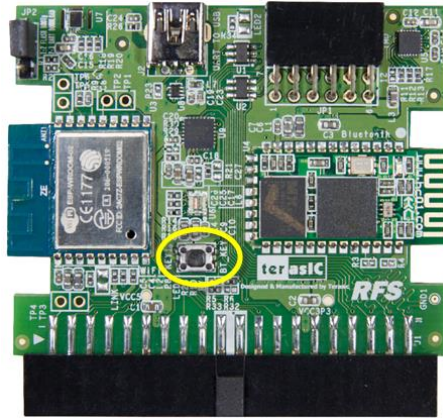

Figure 4-14 BT_KEY for enter order-response work mode (AT mode)
2. Push down and hold the BT_KEY (pull high PIO11) as shown in **Figure 4-14**.